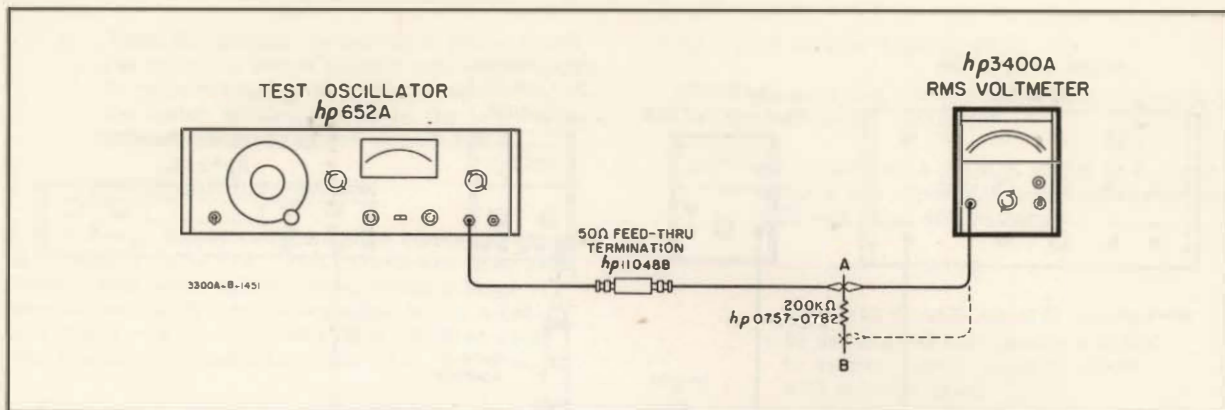

Figure 5-3. Input Impedance Test Setup
- Connect the Test Oscillator, 50 ohm feedthru and -hp- Model 3400A to position A in Figure 5-3.
- d. Connect Model 3400A to position B in Figure 5-3. The 3400A meter reading should change less than 0.02 volts (2 minor divisions). This corresponds to an input impedance of 10 megohms.
- a. Connect Test Oscillator, 50 ohm feedthru and Model 3400A to position B in Figure 5-3. Insert the resistor lead directly into the BNC connector on the 3400A as an adapter adds capacitances to the measurement.